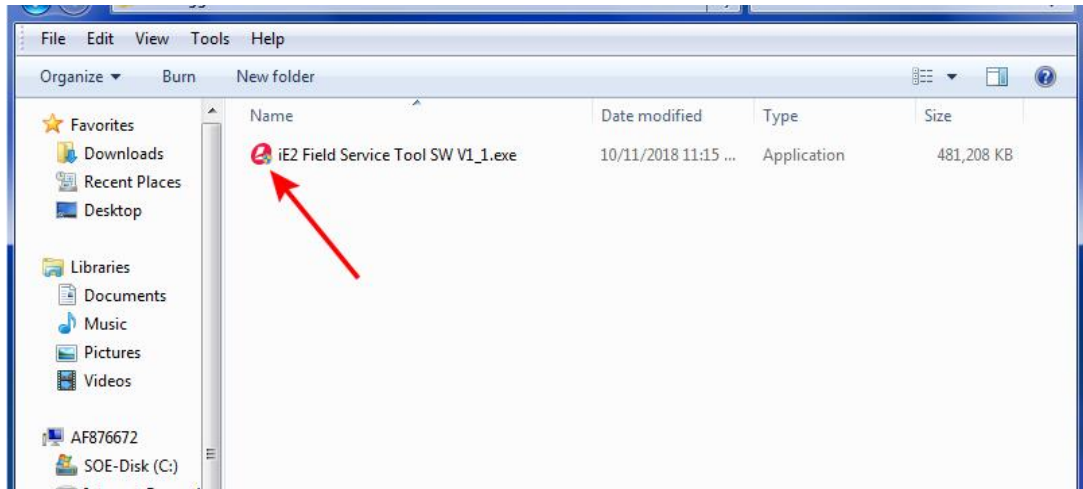

Figure 11
- From the file folder where the download was saved, double-click the “iE2 Field Service Tool SW” icon (Figure 11) to open the Destination Directory.